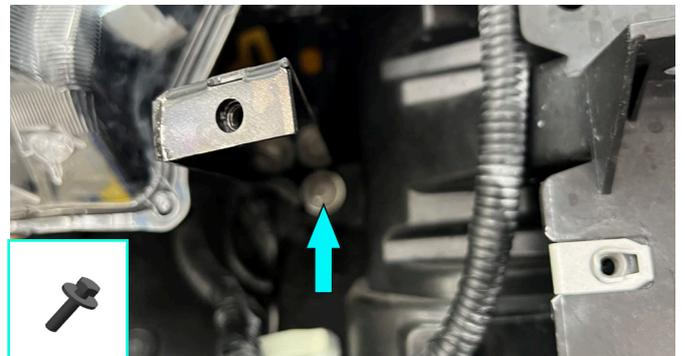

Fig.39
39. Install brackets between light and grille (item 10, 11), as shown in fig. 39. Fix it using bolts M8x30 and washers 8 (item D, J).